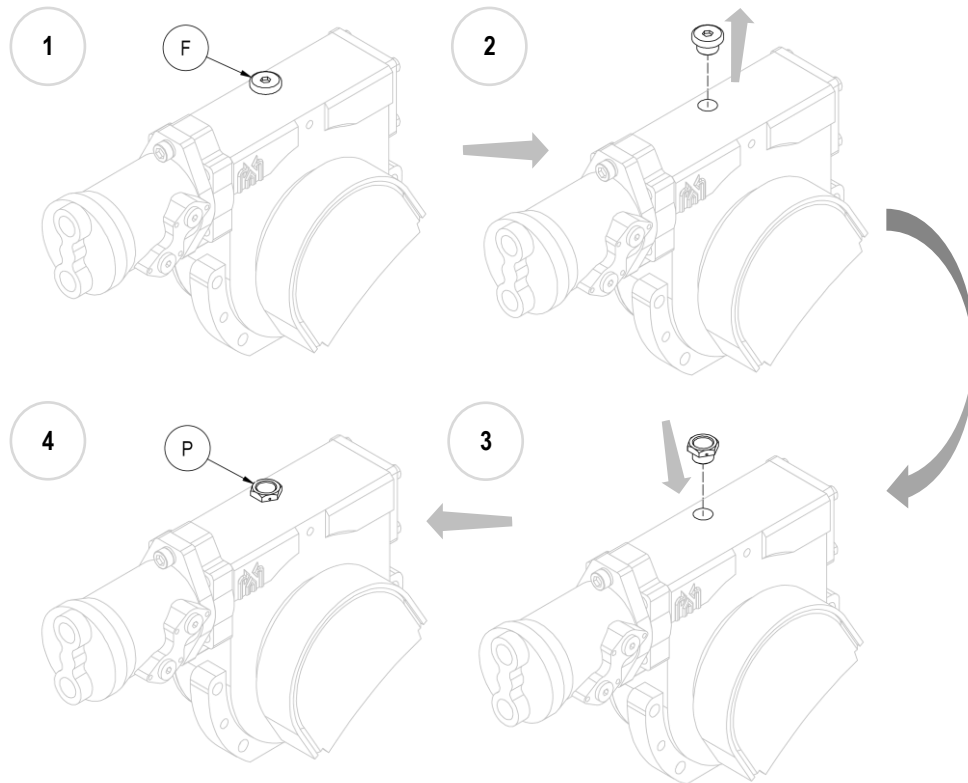

Figure 5
9. **N.B.** With the equipment mounted, before use, replace the blind iron oil filler plug (F) with the plastic one supplied (P), which includes a breather (see *Figure 5*).